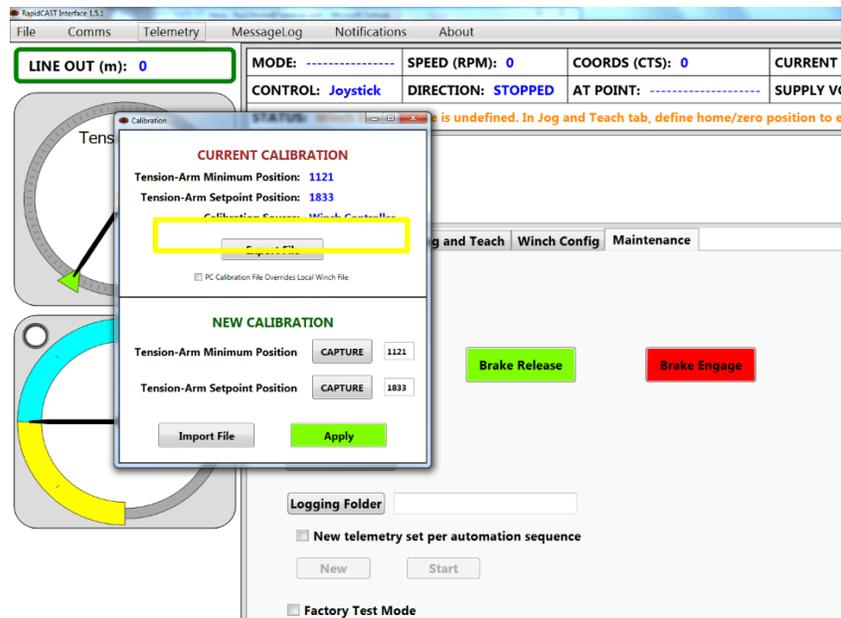

Figure 39. Tension Arm Calibration
1. In the rapidCAST Interface software, click the **Maintenance** tab and then click the **Calibration** button (see Figure 39, page 89).
8. Cycle power to the winch controller; Make sure that the **Calibration Source** reads **Winch Controller** (see Figure 39, page 89). Upon power cycling, the controller first checks the internal source of the calibration, which is the FLASH card and this is signified by the **Winch Controller** source.